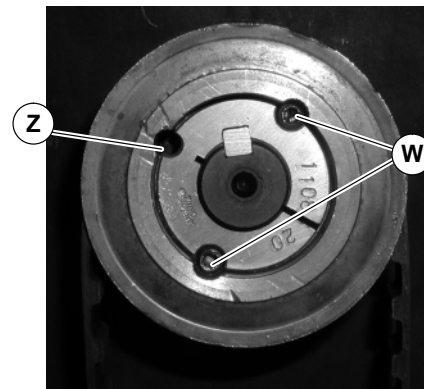
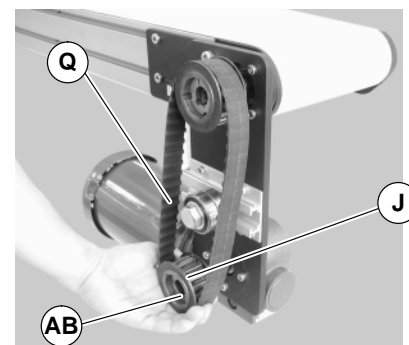

Figure 17
Figure 18
NOTE: If drive pulley (J of Figure 18) is replaced, wrap timing belt around drive pulley and complete step 3.
4. Loosen taper-lock screws (W of Figure 17) and remove drive pulley: Insert one (1) of taper lock screws (W) in remaining hole (Z). Tighten screw (W) until pulley is loose. Remove pulley (J of Figure 18), taper hub assembly (AB), and timing belt (Q)
NOTE: Drive pulley (J of Figure 18) is removed. Wrap timing belt around drive pulley and complete step 12.